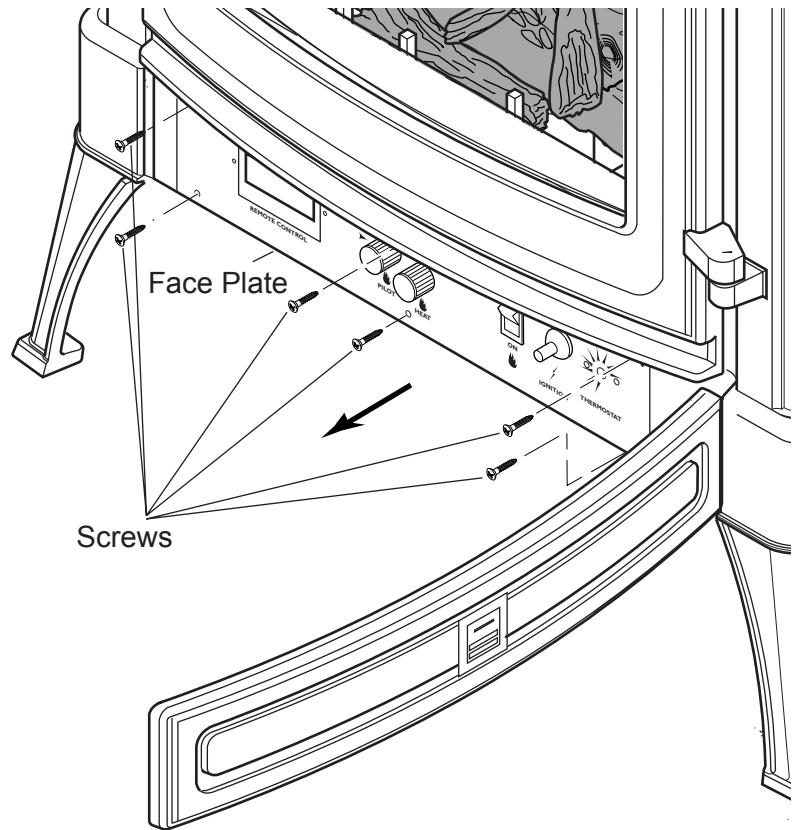

Figure 8 - Removing Face Plate from Stove
1. Remove the face plate by removing the six screws holding the faceplate in place. This will allow you to pull the faceplate away from the unit about 3" to 4". See *Figure 8*.
3. Attach wiring harnesses to back of t-stat sensor. See *Figure 8*. Attach the other ends of the harness to either TP/TH and TH on control valve or to existing wiring harness with two (2) 0.250" male spade terminals for remote t-stat operation. See *Figure 8*, page 13.